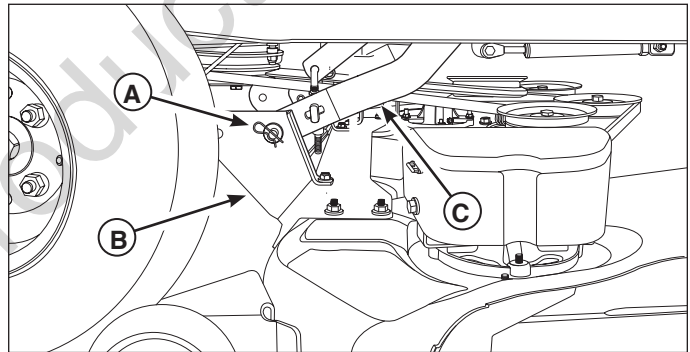

Figure 22. Rear Deck Lift Components
4. Remove the hairpin clips and washers (A, Figure 22) securing the rear mower deck brackets (B) to the rear lift arms (C), and pull the arms out from the holes in the brackets. Retain all removed hardware.
5. Insert the rear lift arms (C, Figure 22) into the front holes in the rear mower deck brackets (B), and secure each with a washer and hairpin clip (A).